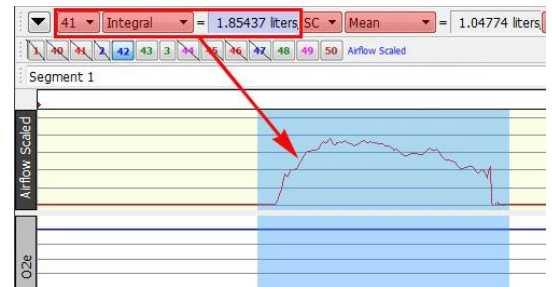

Figure 10
19. Select an area of data that encompasses the airflow pulse as shown in Figure 10. Note the value of the **%Integral+** measurement. If this value does not closely match the volume of the calibration syringe, then a scaling factor must be used.